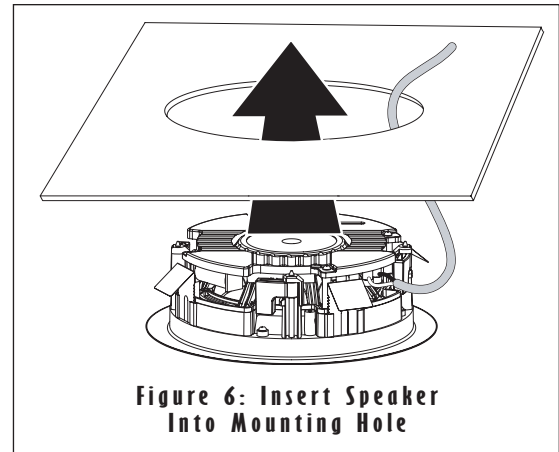

Figure 6: Insert Speaker Into Mounting Hole
- Make sure all the RotoLock clamps are in the full clockwise position so that they are tucked within the mounting hole's border. Insert the speaker into the hole in the ceiling (Figure 6). The RotoLock system can accommodate a maximum ceiling material thickness of 1¼".